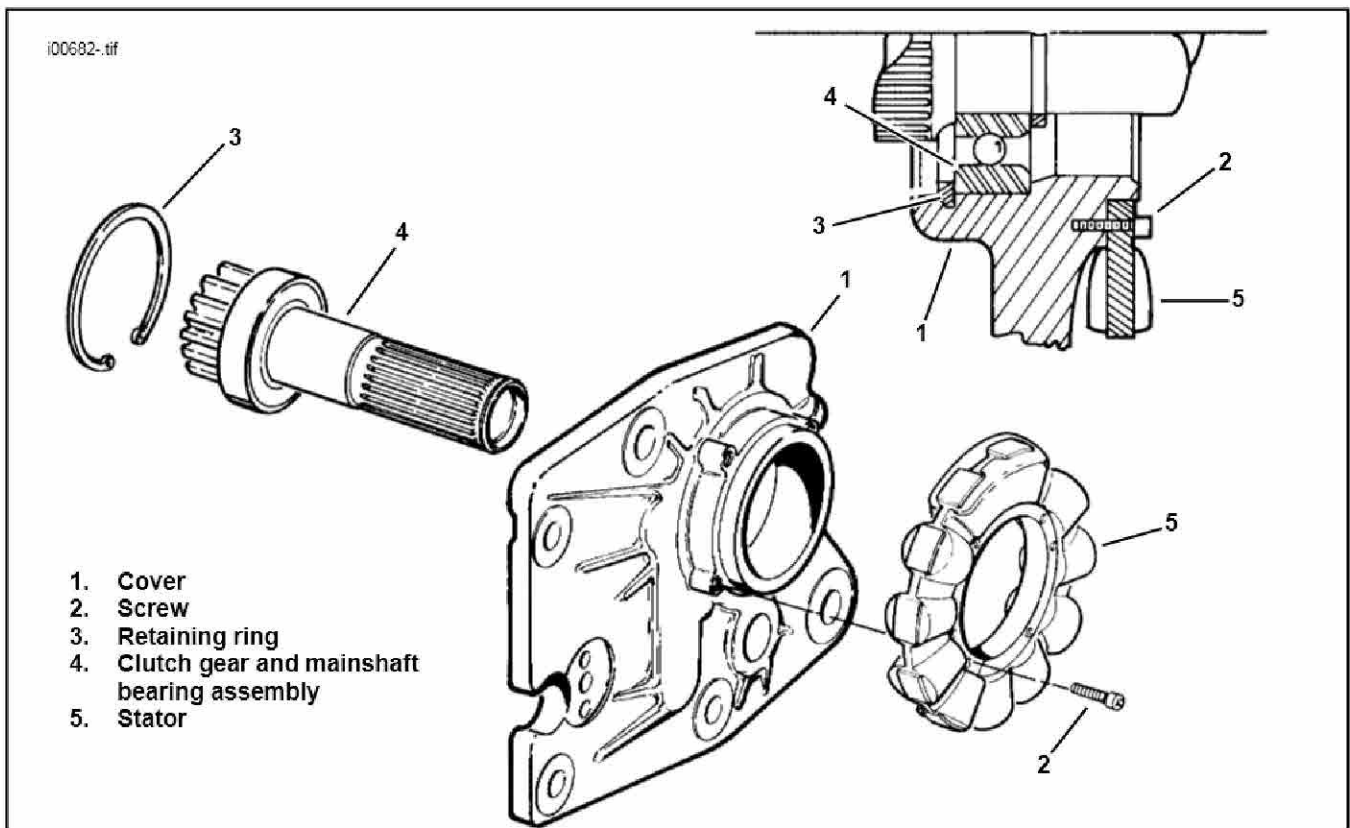

**Figure 5. Stator Mounting Holes**
*Stators with eight mounting holes must use the proper holes as indicated in Figure 5.*